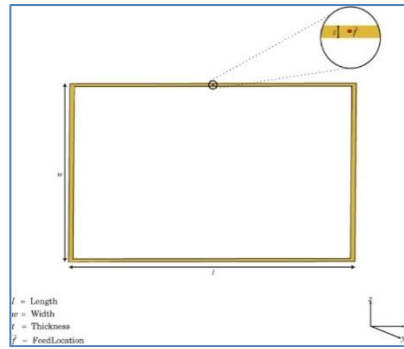

Figure 10.3: Rectangular Loop antenna
3. Calculate the bandwidth of a rectangular loop antenna as shown in the figure 10.3 based on its physical dimensions and the Q factor of the antenna. Determine the percentage bandwidth for a given Q factor.